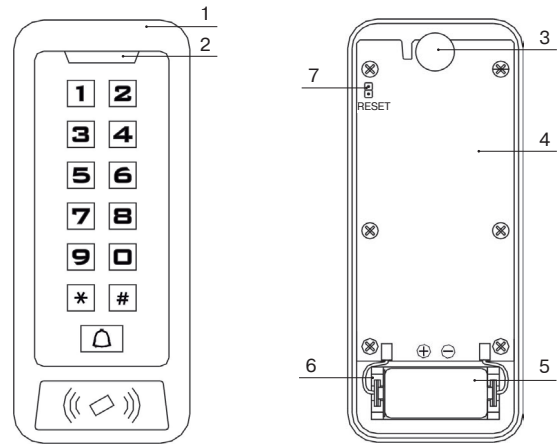

Figure 1
PUV-RK comprises the following components (see Figure 1): case (1) with the installed printed circuit board (PCB) (4). LED indicators of general application (2) located on the front panel can be switched ON / OFF by the relevant command from the control panel (hereinafter, the CP).